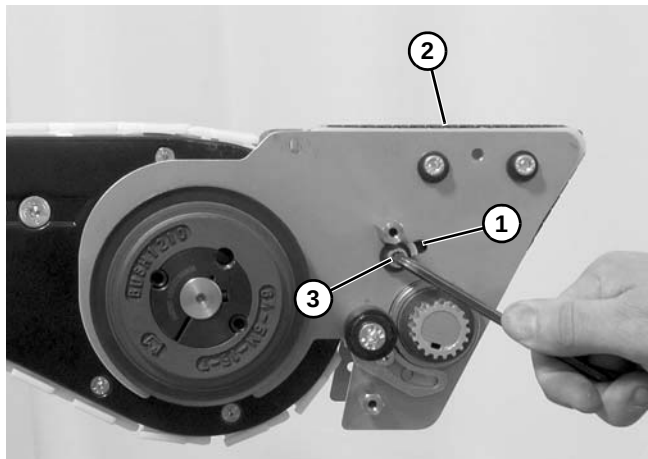

Figure 122
8. Slide idler assembly within slot (Figure 122, item 1) to remove excess slack from belt (Figure 122, item 2). Tighten socket head screws (Figure 122, item 3).